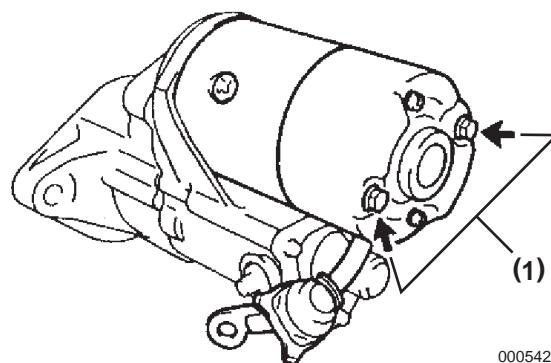

Figure 10-41
12. Assemble the field coil frame and armature assembly using two through bolts (Figure 10-41, (1)) and torque to 95 kgf·cm, 9.32 N·m (82.4 lb-in.).